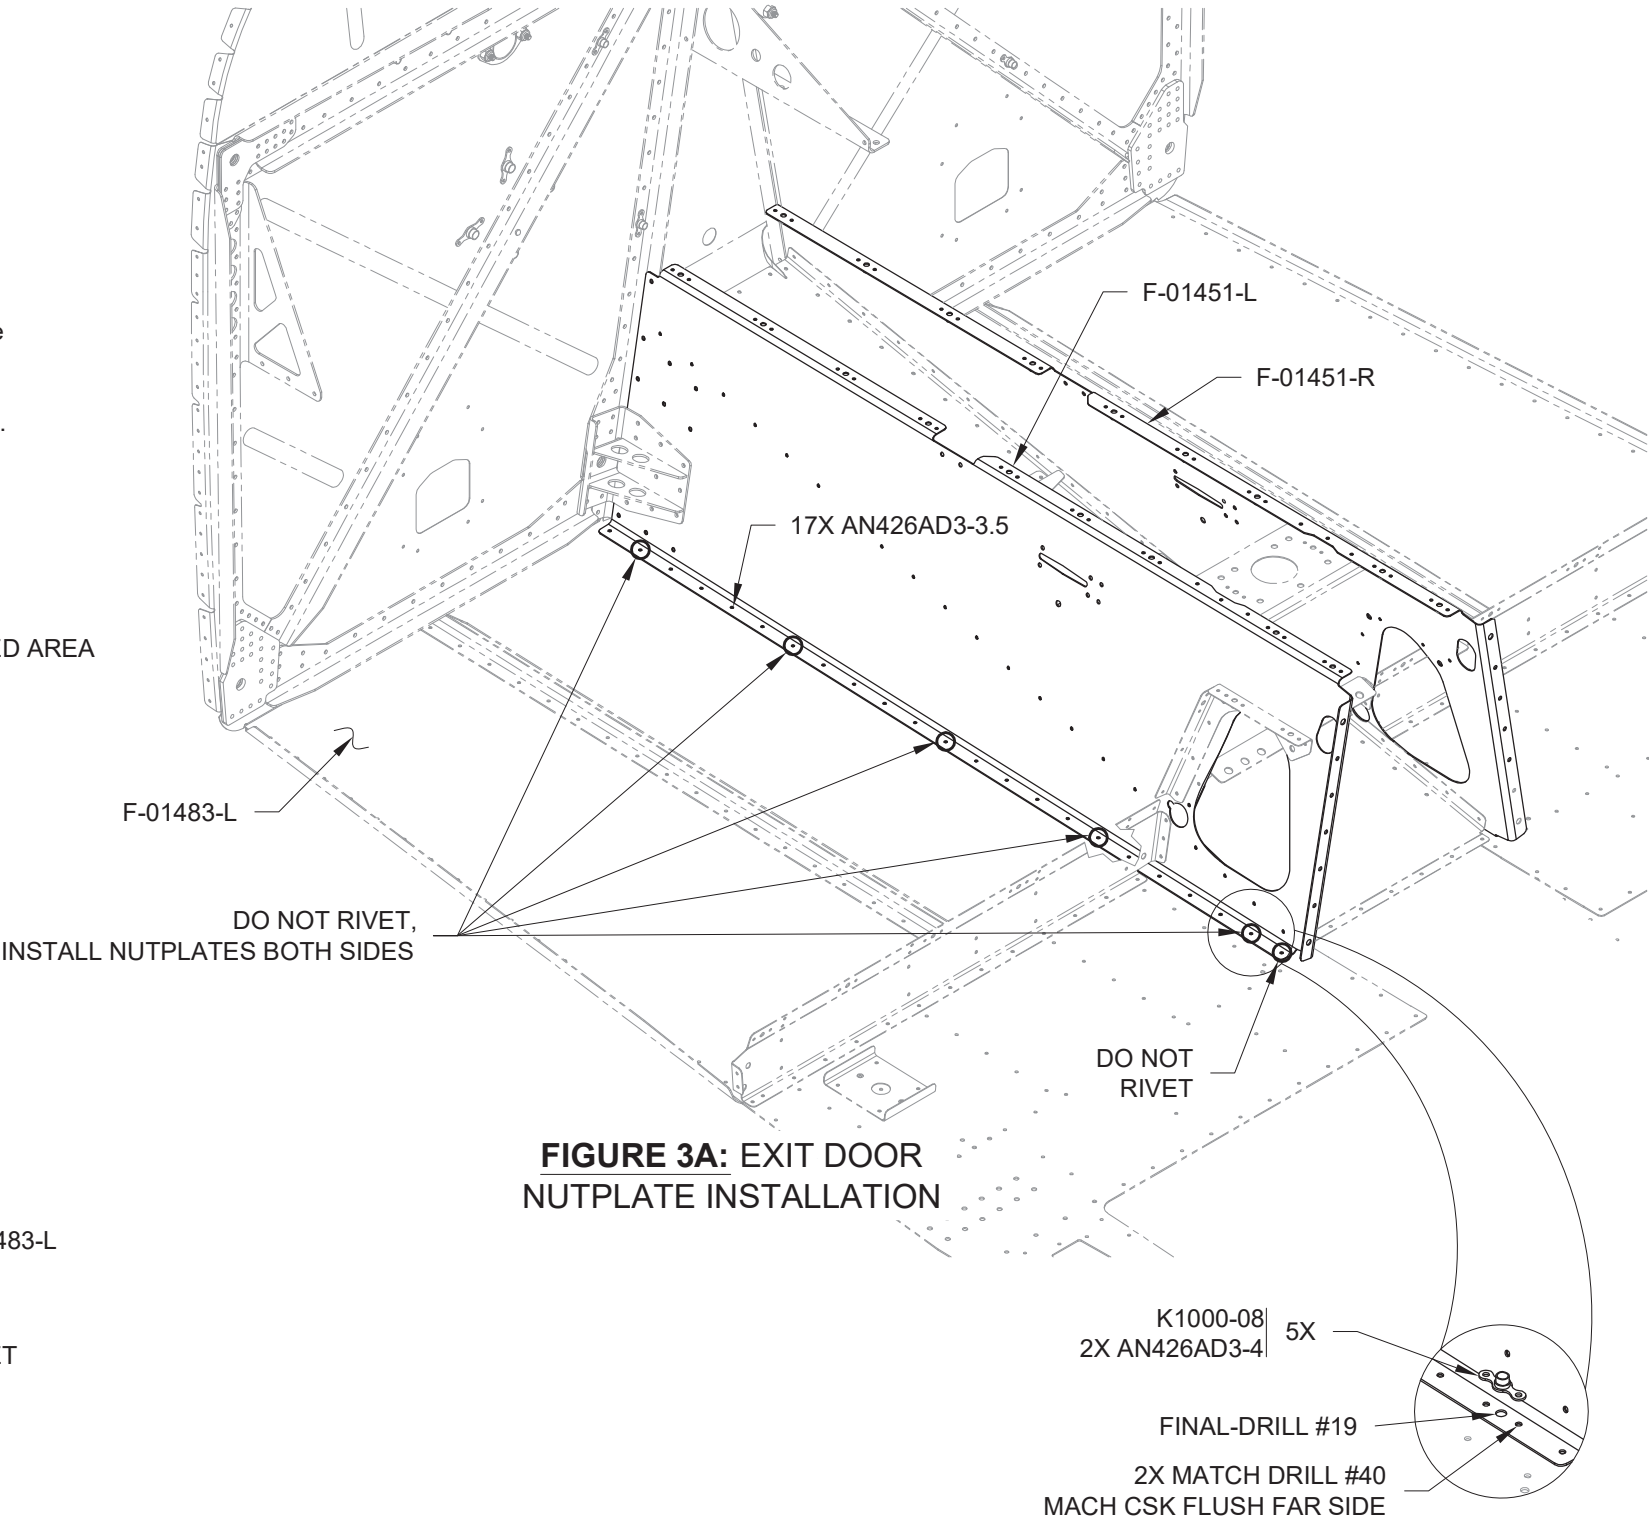

FIGURE 3A: EXIT DOOR
Step 6A: Except for the locations shown in Figure 3A, rivet the F-01415-L & -R Tunnel Sides to the F-01483-L & -R Forward Bottom Skins as shown in Figure 3A and KAI Section 28 Page 07 Figure 3. **DO NOT** rivet the aft-most hole in the tunnel sides.
Step 6B: Install nutplates at each location as shown in the detail view in Figure 3A.